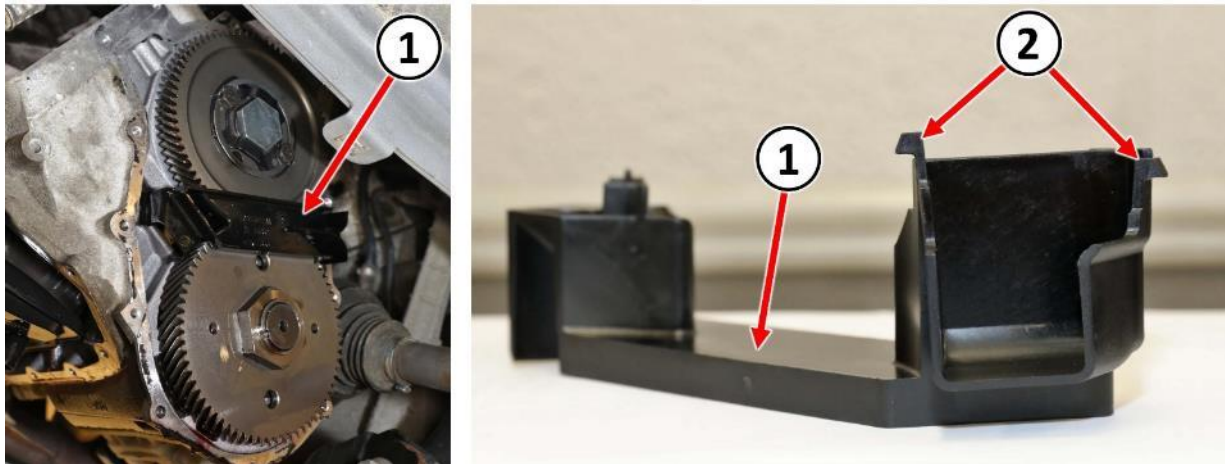

**Figure 19 – Oil Scavenger**
30. Remove the plastic oil scavenger (1) (Figure 19).
**NOTE:** Broken retaining tabs (2) on the oil scavenger (1) are acceptable because the scavenger is held in place by the transfer gear cover. However, if the scavenger is broken in such a way as to compromise its functionality, then it must be replaced (Figure 19).